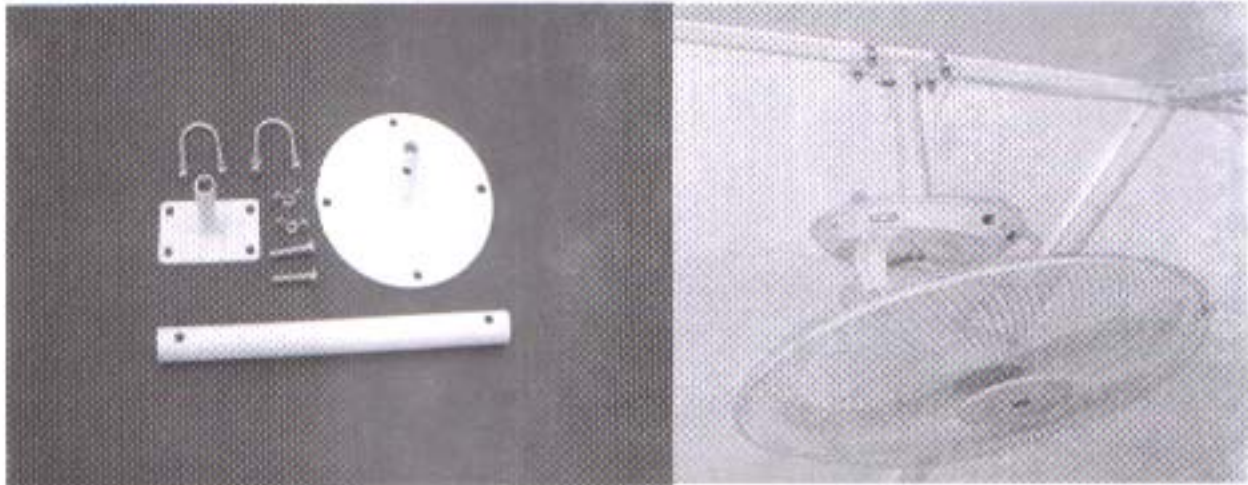

Figure 6: Fan Fixture Assembly
5. Refer to Figure 6. Using U-Blot, assemble the fan mounting and attach 3 fan mounting brackets (Part No. 18-1, 18-2 and 18-3) to the ridge of the Roof Frame and fasten securely. The square brackets are not numbered, please identify them from the Figure 6.